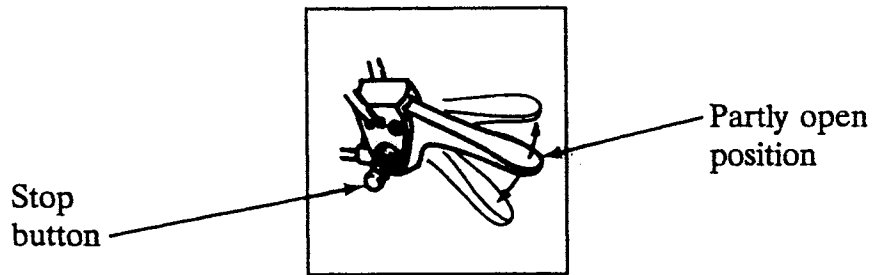

Figure 6
4. Depress the throttle lever completely, push the stop button and take your hand off of lever. The stop button will lock the throttle lever in partly open position. See Figure 6.